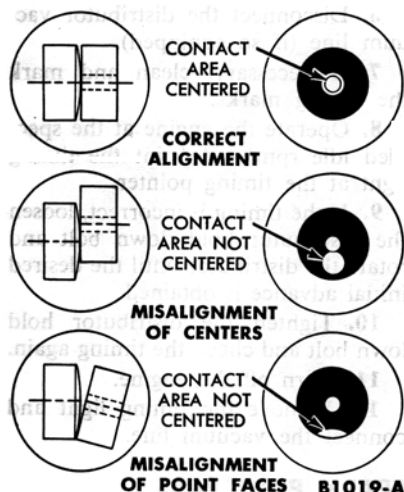

FIG. 19—Breaker Point Alignment
1. Turn the cam so that the breaker points are closed and check the alignment of the points (Fig. 19).